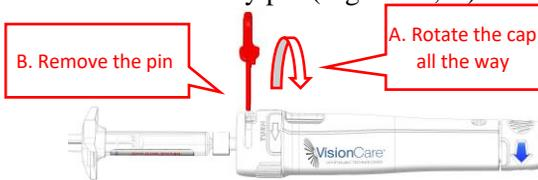

Figure 10
7. Rotate the cap all the way as indicated by arrow (Figure 10, A) and then remove the safety pin (Figure 10, B).